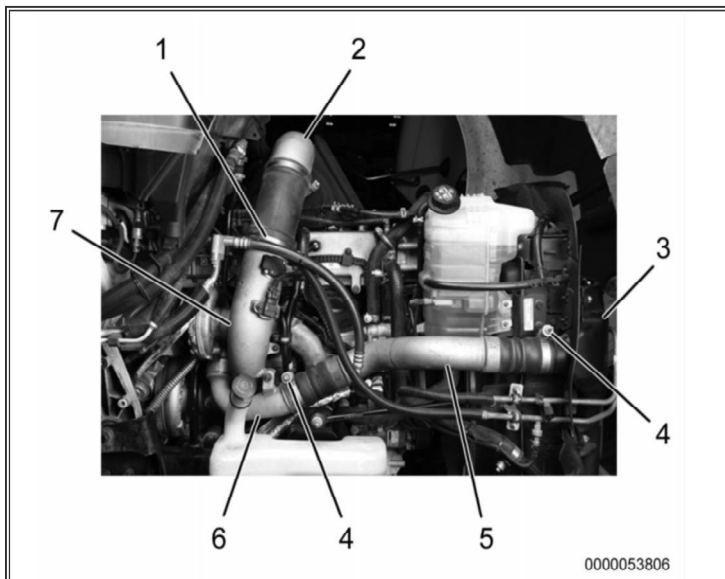

Figure 17: HP Turbocharger Connections
4. Remove air inlet duct clamp (Figure 17, Item 1) and remove air inlet duct (Figure 17, Item 2) from Low-Pressure (LP) turbocharger inlet duct (Figure 17, Item 7).
5. Remove two High-Pressure Charge Air Cooler (HPCAC) clamps (Figure 17, Item 4) and remove HPCAC pipe (Figure 17, Item 5) from HPCAC (Figure 17, Item 3) and HP turbocharger outlet duct (Figure 17, Item 6).